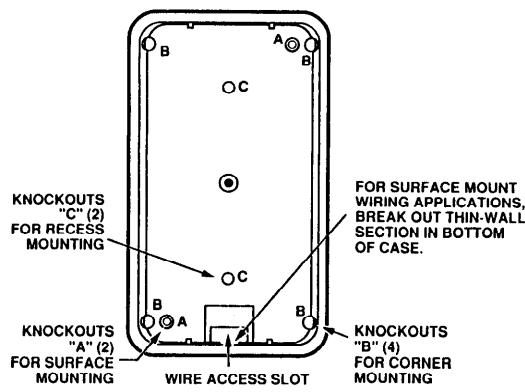

Figure 3: DETECTOR BASE
- Refer to Figure 3. Knockout holes in the base are available for normal surface mounting on a wall (holes "A"), or for corner mounting (holes "B"). Break out only those mounting holes required.